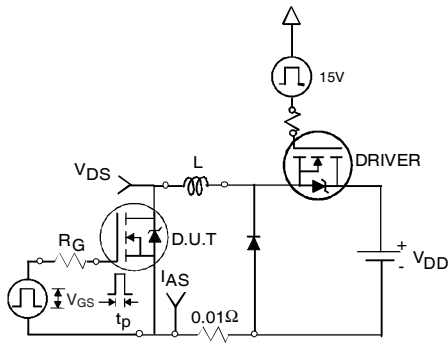

Fig 12a. Unclamped Inductive Test Circuit
- ③ Pulse width $\leq 1.0\text{ms}$; duty cycle $\leq 2\%$.
- ④ $C_{oss\ eff.}$ is a fixed capacitance that gives the same charging time as C_{oss} while V_{DS} is rising from 0 to 80% V_{DSS} .
- ⑤ Limited by T_{Jmax} , see Fig.12a, 12b, 15, 16 for typical repetitive avalanche performance.
- ⑥ This value determined from sample failure population. 100% tested to this value in production.
- ⑦ When mounted on 1 inch square copper board.
- ⑧ When mounted on FR-4 board using minimum recommended footprint.
3. Equation below based on circuit and waveforms shown in Figures 12a, 12b.